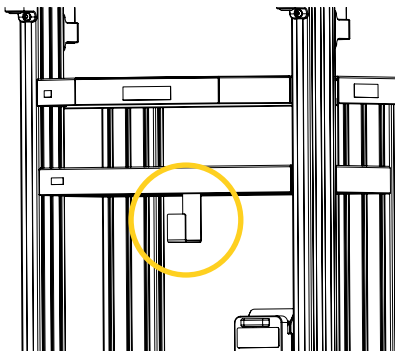

Figure 9 : Location of the cable management hook
1. If required, unplug the UPS power cable from the outlet, wind the cord and hang it on the cable management hook (Figure 9), located on the THS Neonatal Cart UPS protector/shelf.